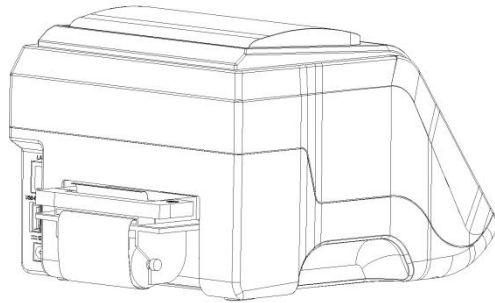

Figure 26: Printer ejecting paper normally
⑥When the paper smoothly passes through the paper feed slot and comes out, as shown in **Figure 26**;